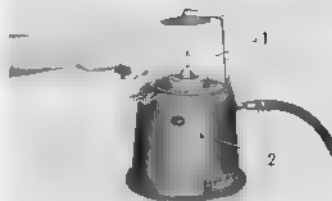

Fig. 5.9 Spark plug cleaner
- The use of the spark plug cleaner is the recommended method of cleaning the plugs, however, a satisfactory cleaning can be performed by using a needle or a stiff wire to remove the deposits and then wash in gasoline followed by drying with compressed air. (Fig. 5.9)